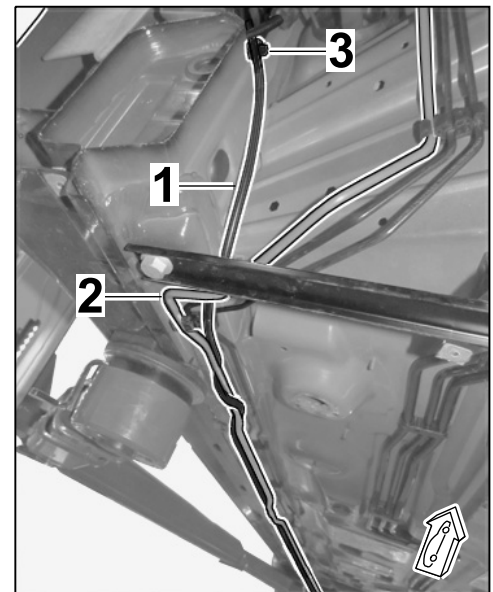

Figure 25
3.3.5 Route line 0.52; BK/YE along pneumatic line (color: green) on the vehicle underbody to the front right wheel housing (⇒ *Figure 25*).